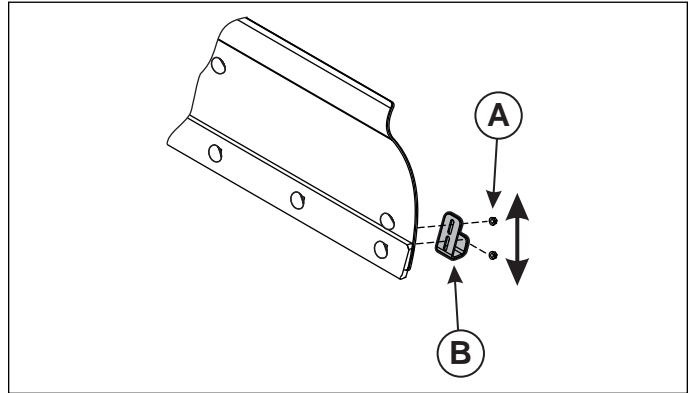

Figure 3. Skid Shoe Adjustment
2. Loosen the nuts (A, Figure 3) securing the skid shoes (B).